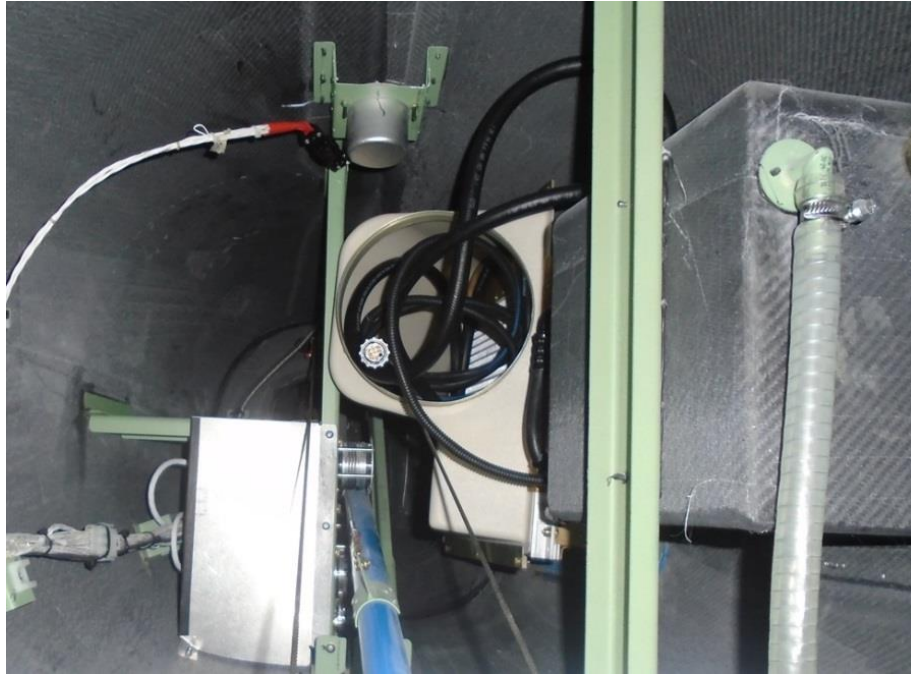
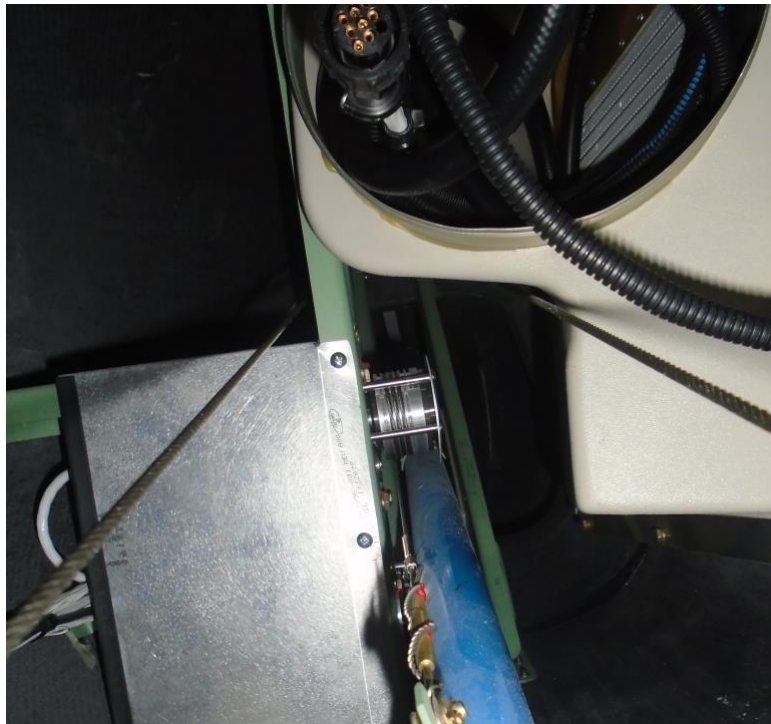

Figure 19 – Condenser Mounting
Figure 20 – Condenser Mounting
- 2) Install the condenser assembly per View 2C and 2D; see Figure 19 and Figure 20 below.